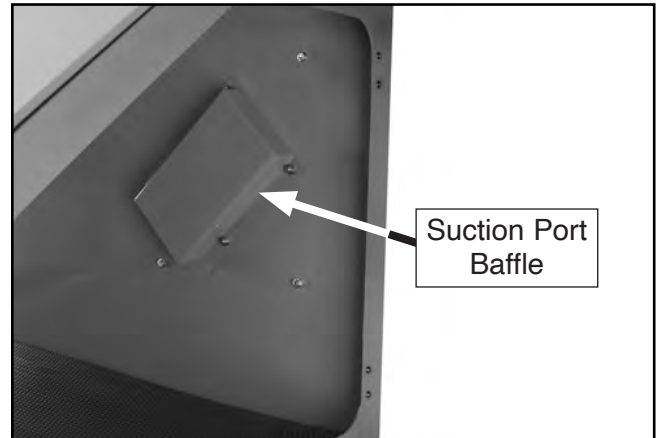

Figure 8. Suction port baffle.
5. Using Phillips screwdriver, remove suction port baffle (see **Figure 8**).